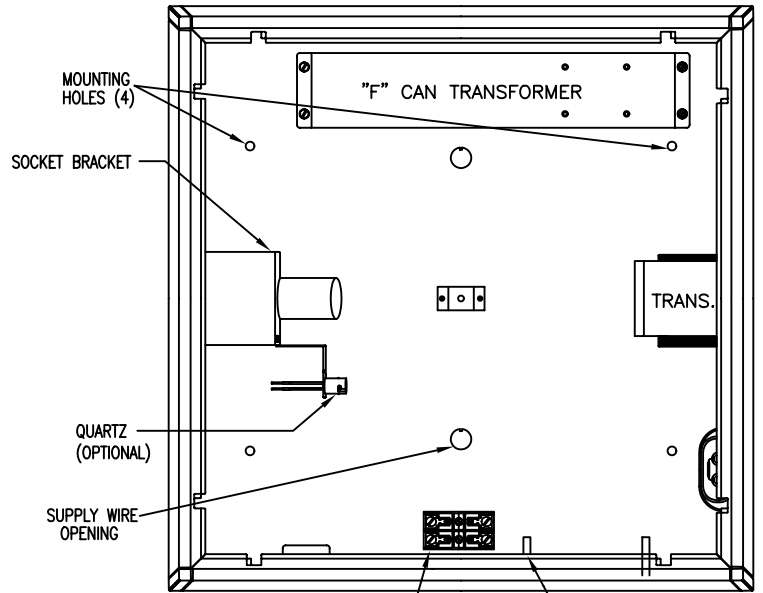

FIG. 2
5. USE (4) MOUNTING HOLES TO ATTACH FIXTURE TO CEILING (SEE FIG.2). USE MOUNTING HARDWARE (BY OTHERS) APPROPRIATE FOR CEILING MATERIAL.
OPTIONAL FUSE BLOCK: USE FUSE KIT CAT. NO. SLSF (SINGLE FUSE) FOR 120V & 277V; SLDF (DOUBLE FUSE) FOR 208V, 240V, & 480V. REMOVE FUSE BLOCK. DISCARD THE PLATE. MOUNT THE FUSE BLOCK ON TOP PLATE BY SUPPLY WIRE OPENING (SEE FIG. 2). CONNECT POWER SUPPLY LEAD(S) AND DESIRED BALLAST LEAD TO FUSE BLOCK LEAD(S).
7. REPLACE REFLECTOR, INSTALL LAMP(S), AND LENS FRAME ASSEMBLY. HINGE THE LATCH SIDE OF THE LENS FRAME ASSEMBLY UP, AND CLOSED (SEE FIG.2).